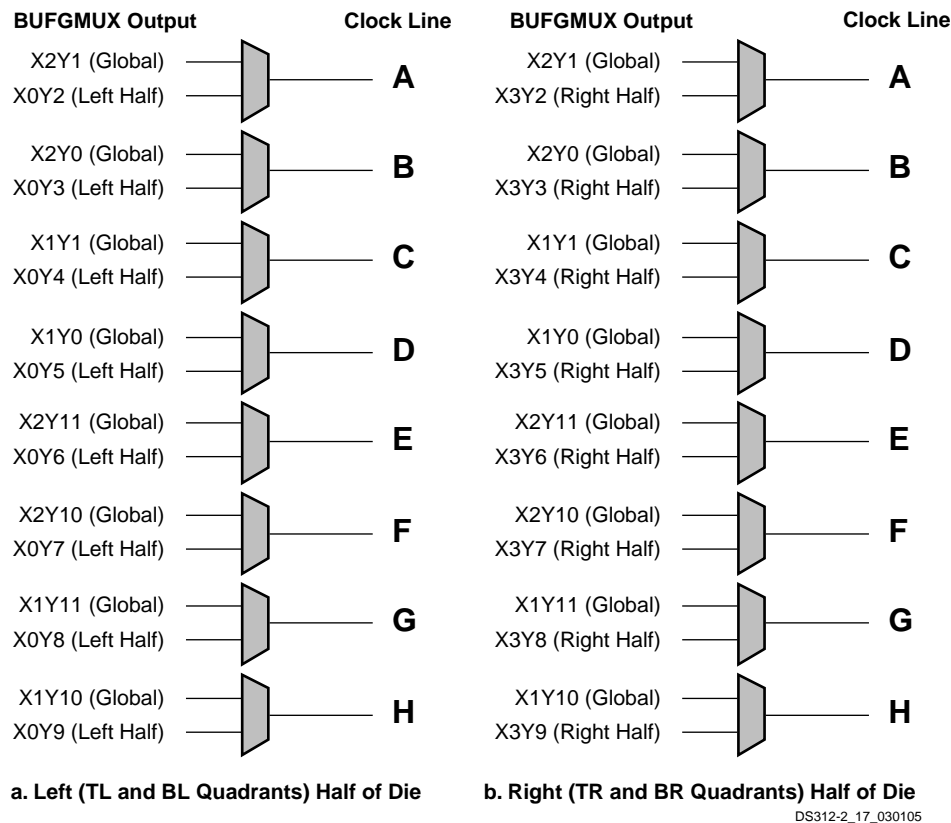

Figure 44: Clock Sources for the Eight Clock Lines within a Clock Quadrant
2. See Figure 42 for specific BUFGMUX locations and Figure 44 for information on how BUFGMUX elements drive onto a specific clock line within a quadrant.
The clock routing within the FPGA is quadrant-based, as shown in Figure 42. Each clock quadrant supports eight total clock signals, labeled 'A' through 'H' in Table 36 and Figure 44. The clock source for an individual clock line originates either from a global BUFGMUX element along the top and bottom edges or from a BUFGMUX element along the associated edge, as shown in Figure 44. The clock lines feed the synchronous resource elements (CLBs, IOBs, block RAM, multipliers, and DCMs) within the quadrant.
in a single clock quadrant. Figure 44 shows how the clock lines in each quadrant are selected from associated BUFGMUX sources. For example, if quadrant clock 'A' in the bottom left (BL) quadrant originates from BUFGMUX\_X2Y1, then the clock signal from BUFGMUX\_X0Y2 is unavailable in the bottom left quadrant. However, the top left (TL) quadrant clock 'A' can still solely use the output from either BUFGMUX\_X2Y1 or BUFGMUX\_X0Y2 as the source.